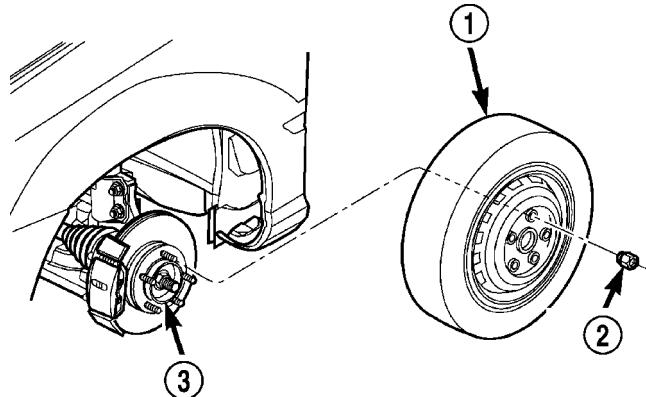

Fig. 12 Wheel and Tire Removal
- (1) Disconnect battery negative cable.
- (2) Place transaxle in gated park.
- (3) Raise vehicle on hoist.
- (4) Remove wheel and tire assembly (Fig. 12).